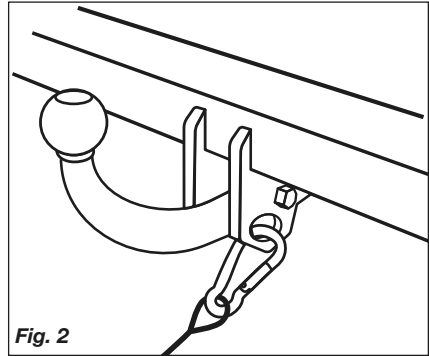

Fig. 2
- Attach it directly to the designated point (Fig 2).